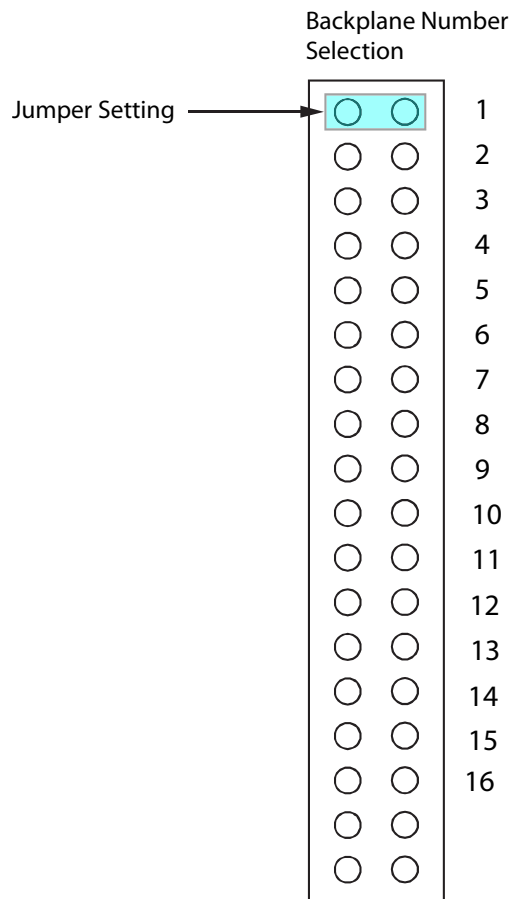

Figure 44. Backplane Number Section
2. Using a jumper, set the backplane number across the Backplane Number Selection pins as shown in Figure 44.